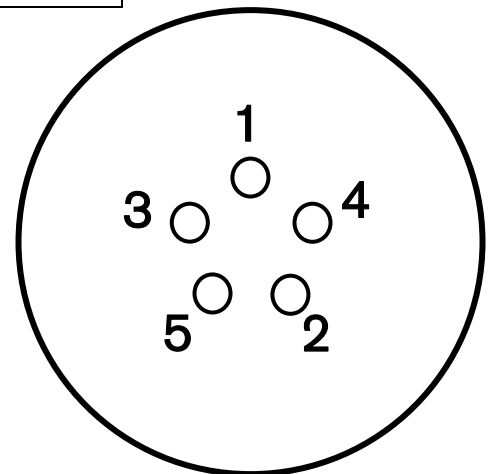

Figure 1. Tightening Sequence
- 10) Install the lug nuts hand-tight. Progressively tighten the lug nuts alternately and evenly in a crossing pattern similar to the sequence shown in Figure 1. Use a calibrated torque wrench. Do not use lubricant of any type on the lug nut or wheel nut seat surfaces.